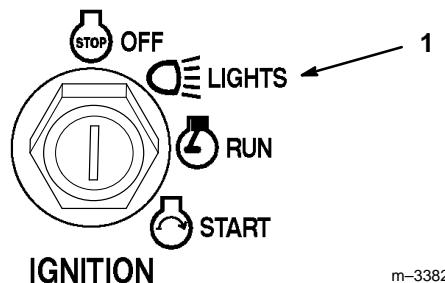

**Figure 15**
1. Raise the seat and loosen the adjustment knobs (Fig. 15).